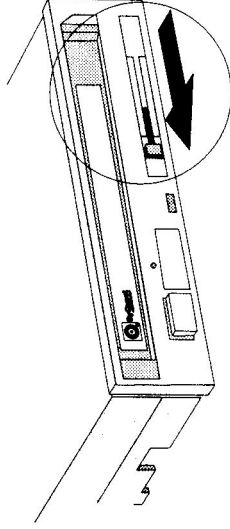

Figure 15. Ejecting the Cartridge
2. Push the load lever to the left, as far as it will go (see Figure 15). The cartridge will eject partway.
3. Push the load lever to the left, as far as it will go (see Figure 15 on page 33). The cartridge will eject partway.